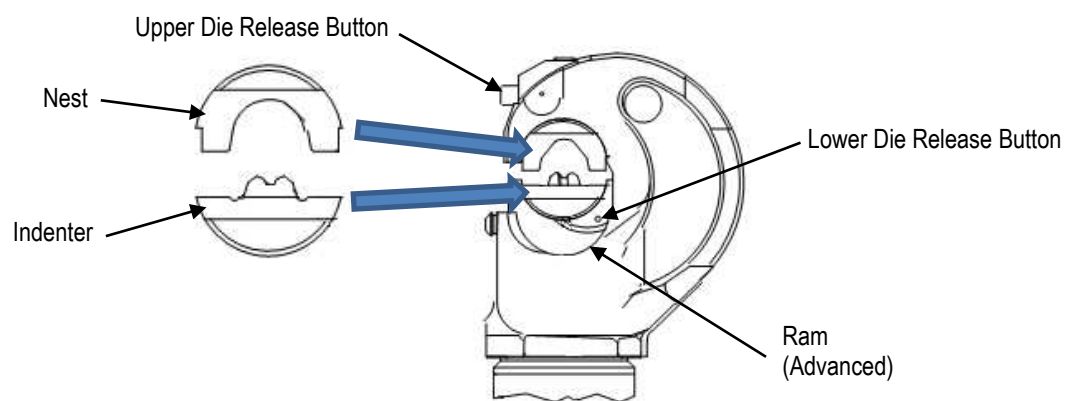

Figure 3
3.1. Die Installation (Figure 3)
2. Slide the nest into place in “C”-head. See Figure 3.
6. Slide the indenter into position in the ram. See Figure 3.
3.2. Die Removal (Figure 3)